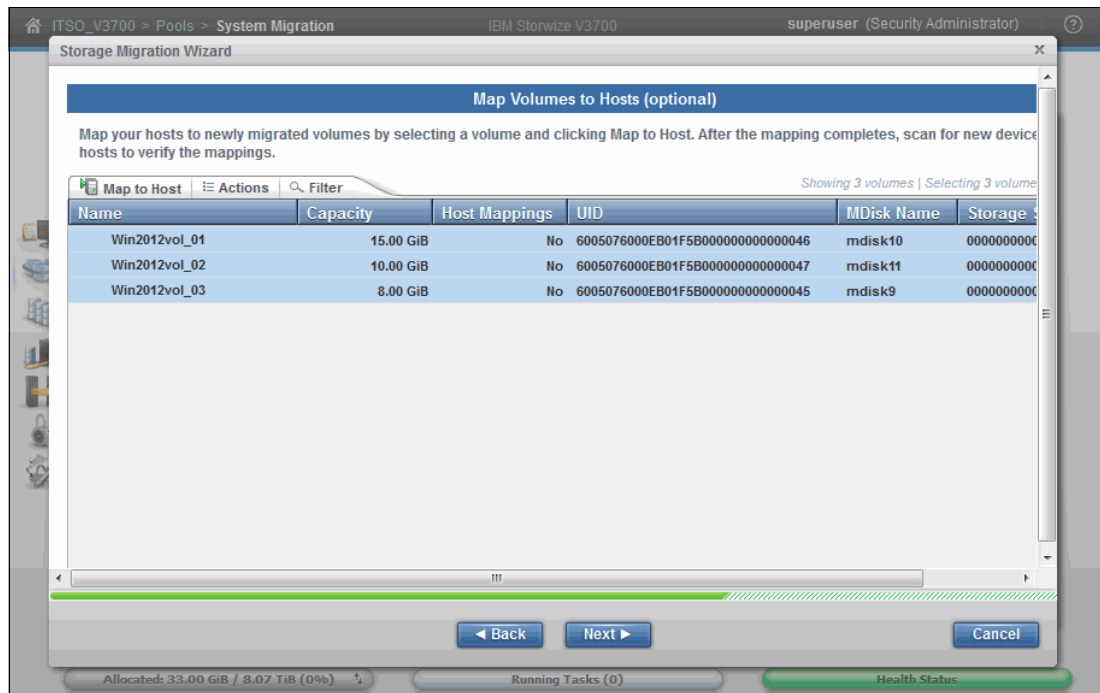

Figure 6-54 Selecting volumes to map
7. After all of the volumes have been renamed, select the volumes that you want to map to your host. Hold Ctrl and click to select multiple volumes, and then click **Map to Host**, as shown in Figure 6-54.